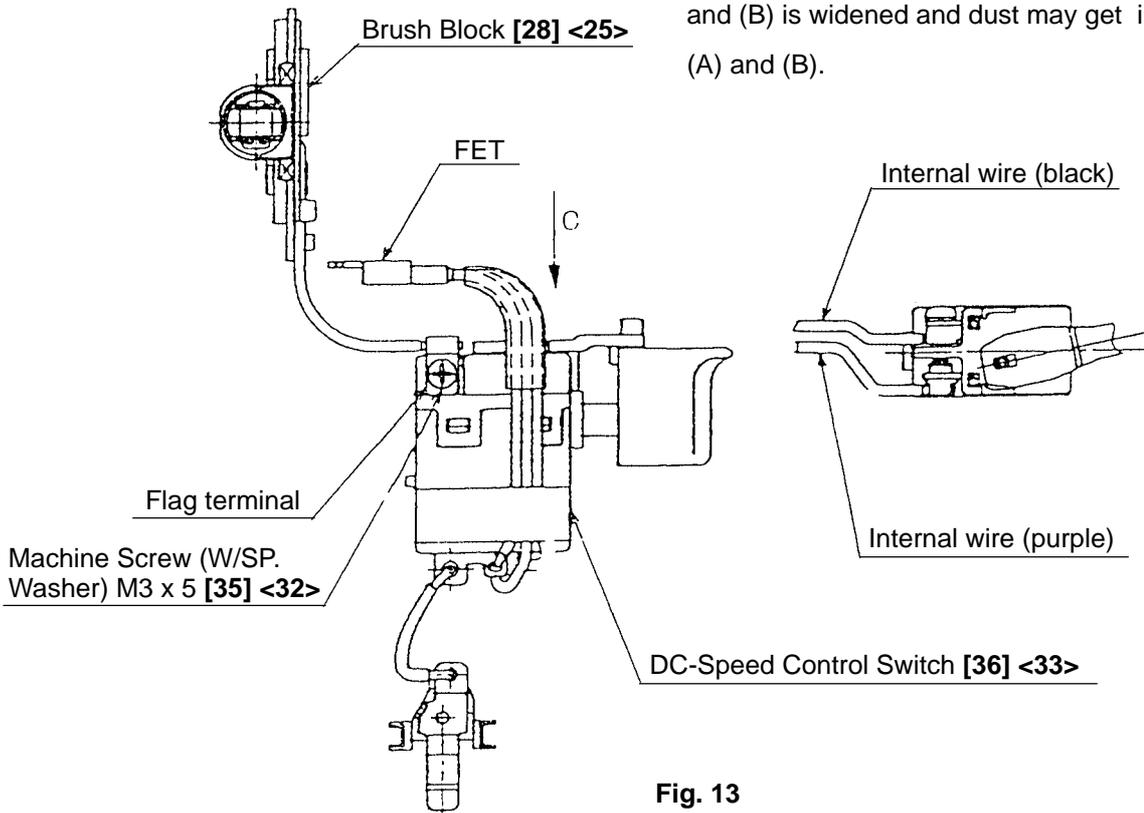

Fig. 13
(1) Reassembly of the housing assembly
- (a) Be sure to follow the wiring diagram (Fig. 13) for proper wiring.
- (b) When connecting the internal wires of the Brush Block [28] <25> to the DC-Speed Control Switch [36] <33>, fasten them with the Machine Screw (W/SP. Washer) M3 x 5 [35] <32> paying attention to the direction of the flag terminal (Fig. 13).
**(Note)** If the flag terminal is mounted in wrong direction, the flag terminal may be damaged due to contact with the housing. In addition, the gap between the housings (A) and (B) is widened and dust may get into the housings (A) and (B).